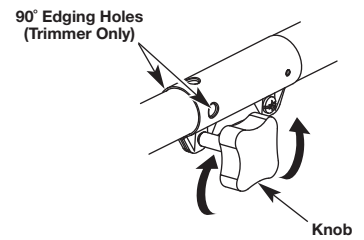
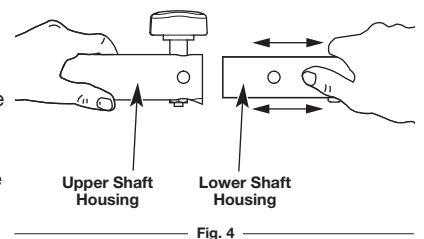
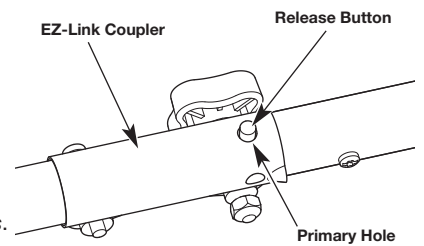

Fig. 3
Fig. 4
Fig. 5
1. Turn the knob counterclockwise to loosen (Fig. 3).
2. While firmly holding the add-on, push it straight into the EZ-Link coupler (Fig. 4) until the release button snaps firmly into the primary hole (Fig. 5).
3. Turn the knob clockwise to tighten (Fig. 3).
CAUTION: Before operating this unit, be sure that the release button is fully snapped into the primary hole (Fig. 5), and that the knob (Fig. 3) is securely tightened.
For decorative edging with the trimmer attachment, lock the release button into one of the 90° holes (Fig. 3).
2. Press and hold the release button (Fig. 5).
3. While firmly holding the upper shaft housing, pull the add-on out of the EZ-Link coupler (Fig. 4).